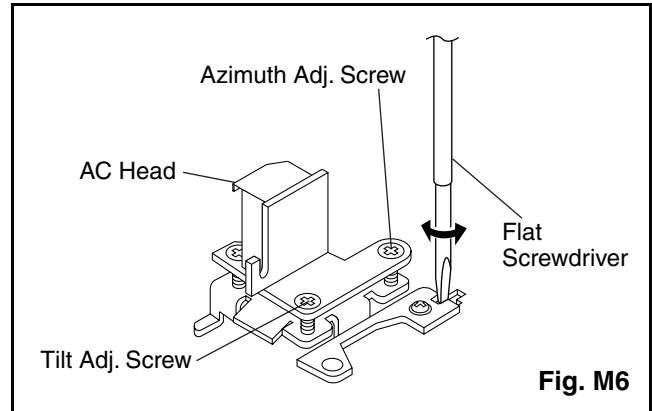

Fig. M6
4. If creasing or snaking is apparent, adjust the Tilt Adj. Screw of the AC Head. (Fig. M6)
4. Use the Flat Screwdriver so that the PB FM signal at TP301 (C-PB) is maximum. (Fig. M6)
- Adjust Azimuth Adj. Screw so that the output level on the AC Voltmeter or the waveform on the oscilloscope is at maximum. (Fig. M6)